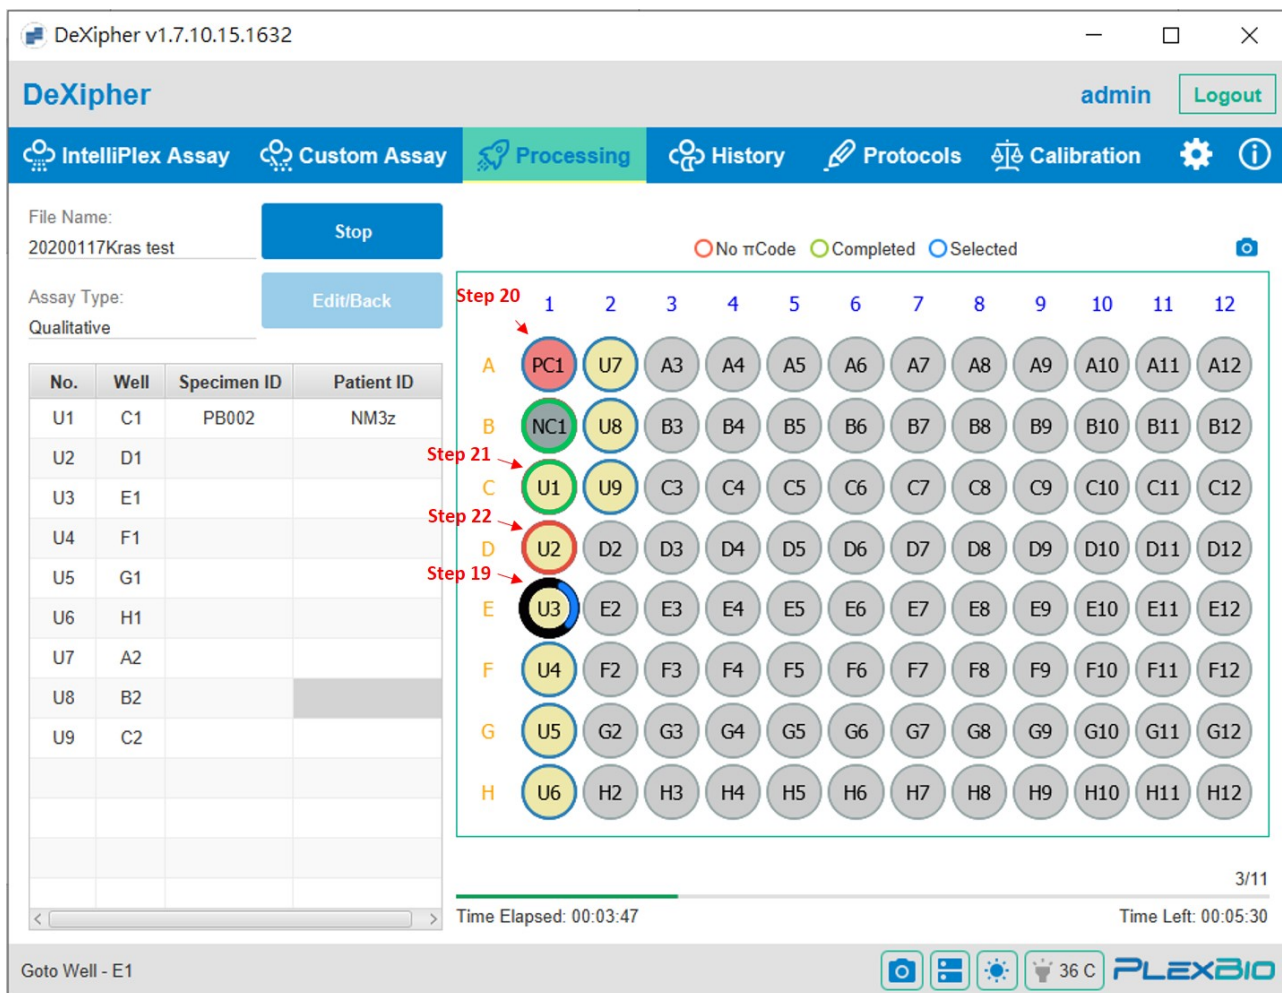

Fig. 16. IntelliPlex Assay - Processing - Run Status
- Step 18. PlexBio 100 Fluorescent Analyzer starts to read selected wells (Fig. 16).